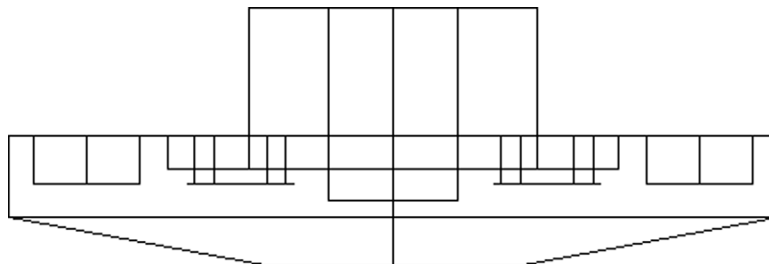

FIGURE 27.19 Flatten results.
Step 3. You can pick `yes` or `no`. In this example, we keep the hidden lines. Press Enter. The flattened 2D model appears as seen in Fig. 27.19.